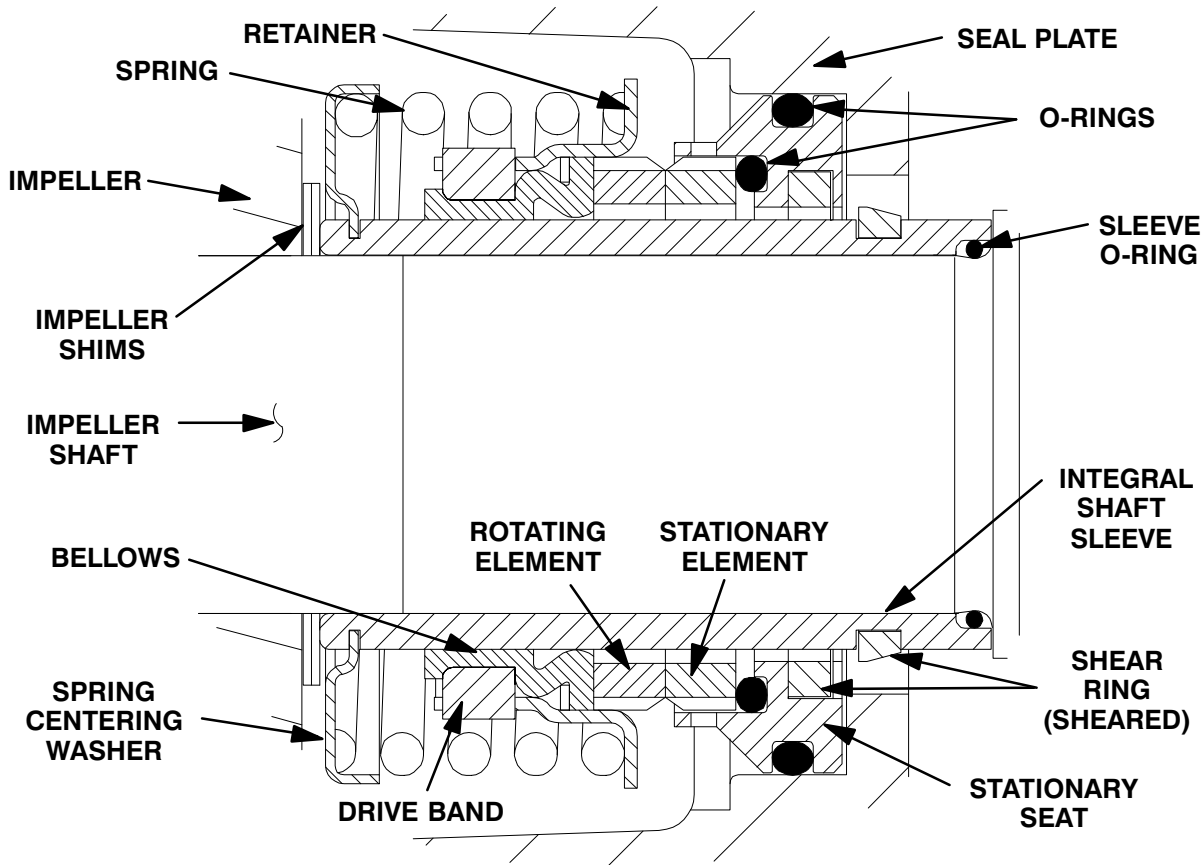

Figure 9. 46513-151 Cartridge Seal Assembly
sleeve O-ring (14) and the external stationary seat O-ring with a very **small** amount of light lubricating oil. See Figure 9 for seal part identification.